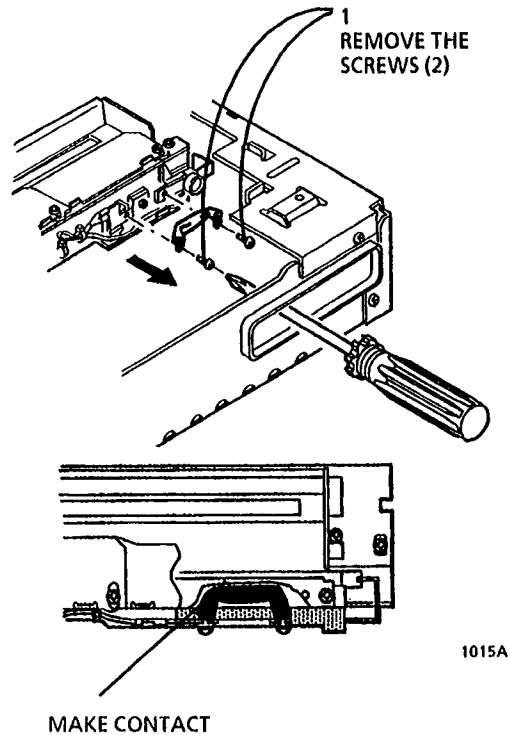

Figure 1. Removing the Thermal Fuse (F3)
3. (Figure 1): Remove the Thermal Fuse.
(Figure 1): Install the fuse so that it contacts the reflector behind the block as shown.